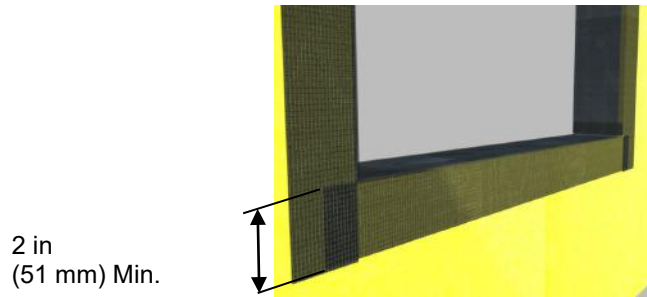

Figure 3
- 4) Install the AquaFlash System at the jambs in the same manner overlapping onto the sill material a minimum of 2 in (51 mm) – Figure 3.